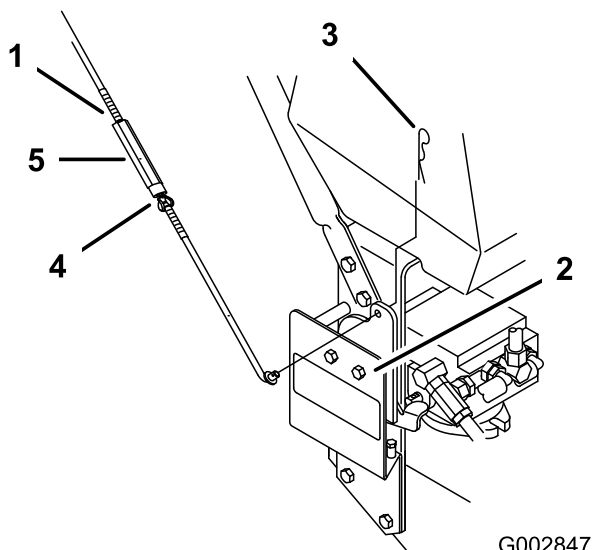

Figure 6
1. Slide the rod into the control bracket and secure it with a hairpin cotter pin (Figure 6).
4. Push the rod forward until the bearing is against the control bracket stop. Thread the rod in or out of fitting on control bracket until the rod aligns with holes in upper control bars (Figure 6).
Note: The upper control bar stop must hit the reference bar before the roller hits the control bracket stop (Figure 6).
6. Connect the rod to upper control bars with the previously removed hairpin cotter, tighten the wing nut and turnbuckle (Figure 6).
2. Peel off backing from battery pads and affix pads to the battery holder, positioning as shown in Fig. 6.